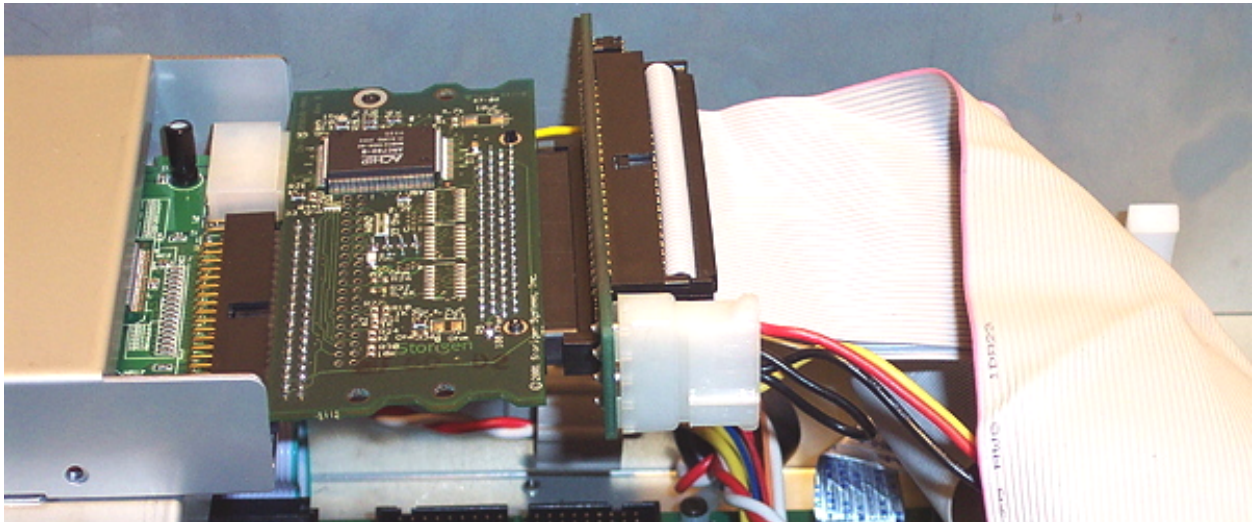

Figure 13. View of option (B) when completed.
- 9) Use the SCSI cable and connect the Storigen adapter to the ASIB1 board. Your EX5R should look as in Figure 13 when the upgrade is completed.